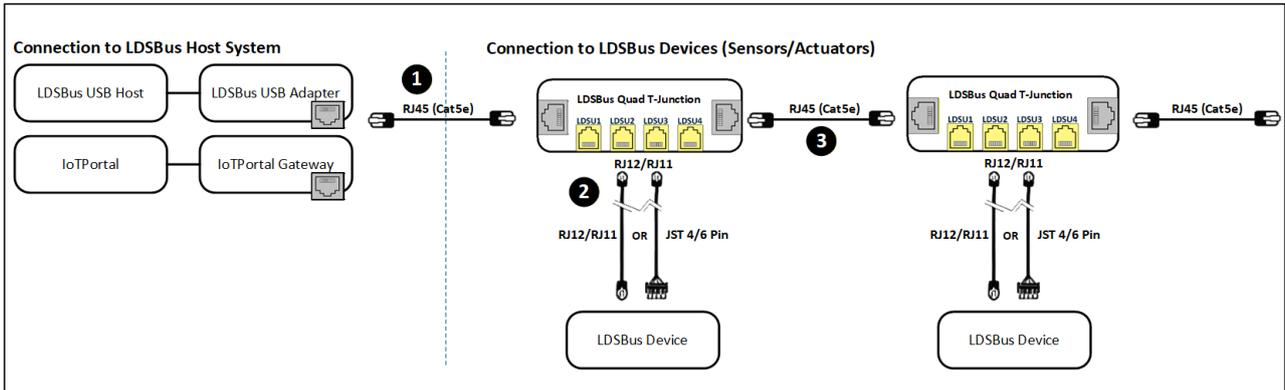

Figure 2 - LDSBus Salinity Sensor Adapter to LDSBus - Connection Diagram
Figure 2 illustrates the connection of the LDSBus Salinity Sensor Adapter (LDSBus Device) to the LDSBus. Please visit <https://brtsys.com/resources> to view the full device application, setup, and installation guides.
1. Connect the first LDSBus Quad T-Junction to any of the LDSBus Host Systems using the RJ45 (CAT5e) cable as shown in Figure 2.
2. Connect the configured LDSBus Salinity Sensor Adapter to the LDSBus Quad T-Junction as shown in Figure 2.
3. If there are more than one LDSBus Quad T-Junctions, chain them together as shown in Figure 2.